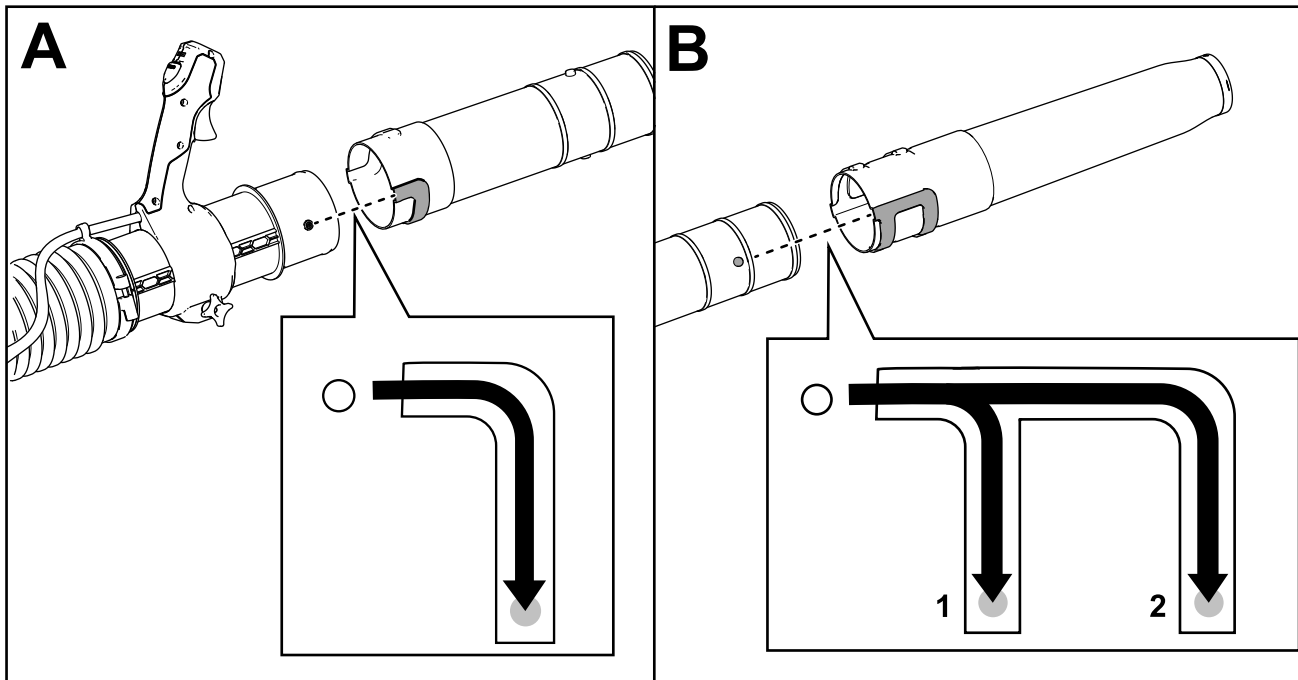

Figure 3
1. Slide the channels of the middle blower tube section over the posts on the blower tube cylinder, and rotate the middle section to secure it (A of Figure 3).
2. Slide the channels of the nozzle section over the posts on the middle section, and rotate the nozzle to secure it (B of Figure 3).